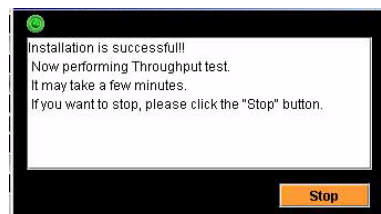

Figure 5-15 *Performing Throughput Test Window*
- d. After the ping test, the AIM performs a throughput test (an FTP transfer of 1 megabyte of data up and down the wireless link), displaying the window shown in *Figure 5-15*.